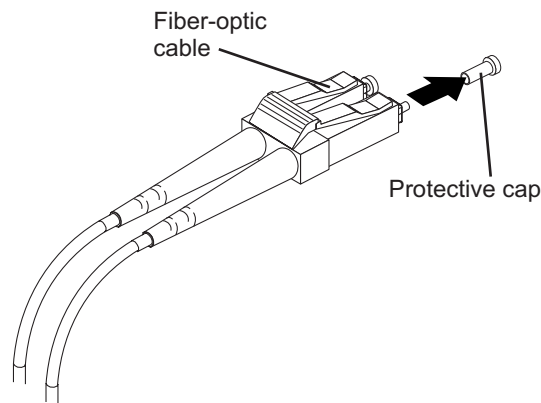

Figure 17. Removing the caps from fiber-optic cables
1. Remove the protective caps from the end of the fiber-optic cable. See Figure 17. Remove the protective cap (if any) from the SFP. Save the caps for future use.